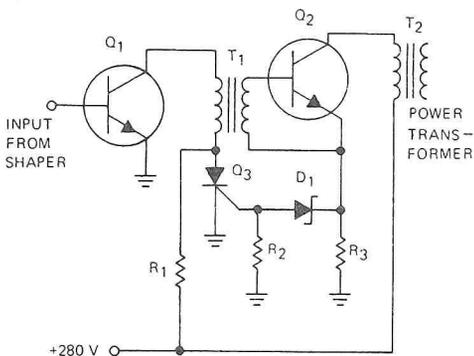

Fig. 4. Detail of Fig. 3, showing automatic shutdown circuit.
Fig. 4 shows the automatic shutdown circuit in detail.  $Q_1$  is the driver transistor, and  $Q_2$  is the output "switch". Circuit operation is as follows: The average output of the circuit is such that a
4. When  $Q_3$  in Fig. 4 turns on, the 280 volt line is shorted to ground, thereby causing the circuit breaker to trip, removing power from the receiver.
5.  $Q_2$  in Fig. 4 serves as a single-ended class A amplifier.